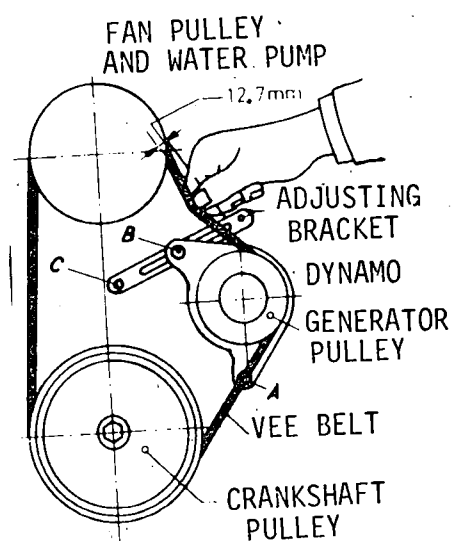

Fig. 5
c) Tighten the belt according to specifications (fig. 5).